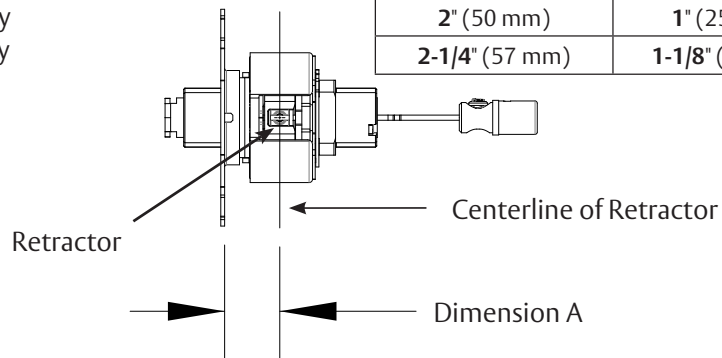

Figure 6
2. Rotate outside rose liner to adjust lock to fit door thickness, so distance (Dimension A) from inside surface of liner to centerline of retractor is half the thickness of the door (See chart and Figure 6).